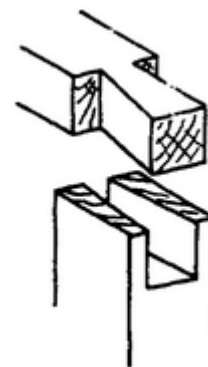

Figure 13. Single dovetail joints.
a. Single dovetail joints, like the one shown in figure 13, are used for drawing boards, tabletops, drawers, etc.